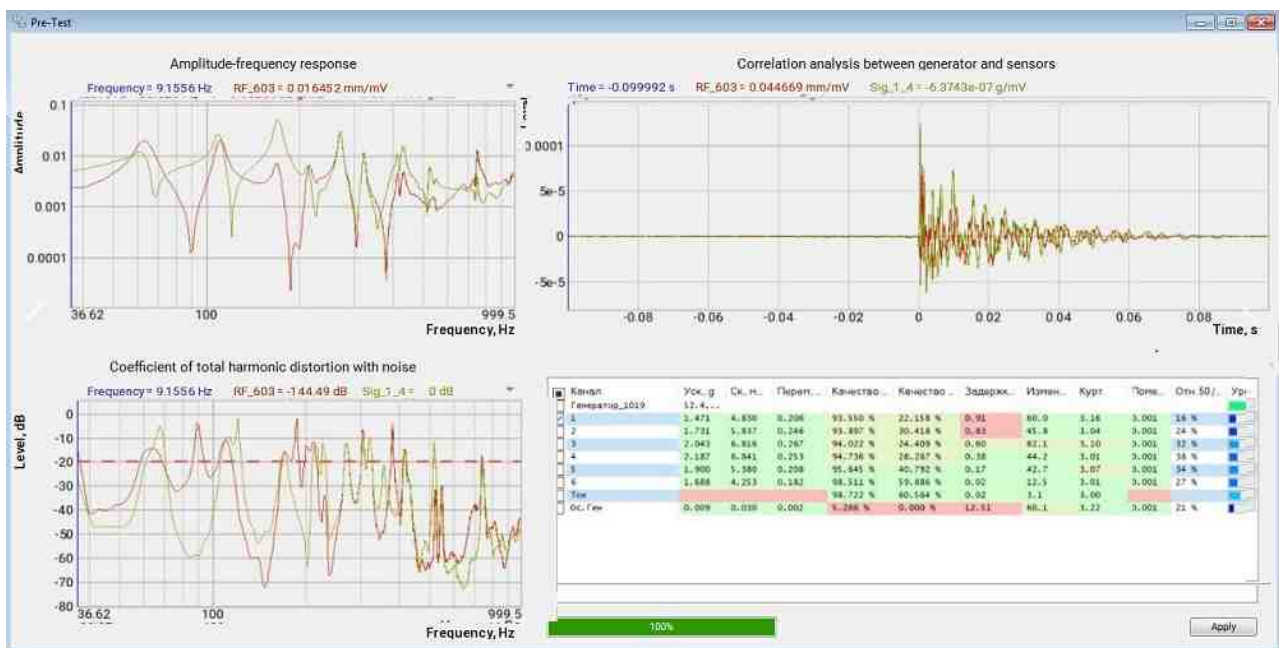

Fig. 4. The results of the Pre-Test for two sensors installed in the wrong places
P.S. An attentive reader may notice that in Fig. 4, the AFR of sensors No. 1 and No. 4 coincide in the frequency range from 270 to 330 Hz and have two resonances and one antiresonance in this area. If the frequency range of the test profile was wider and included this section, then we would have to select another pair of sensors to pass the tests. Or even three sensors.